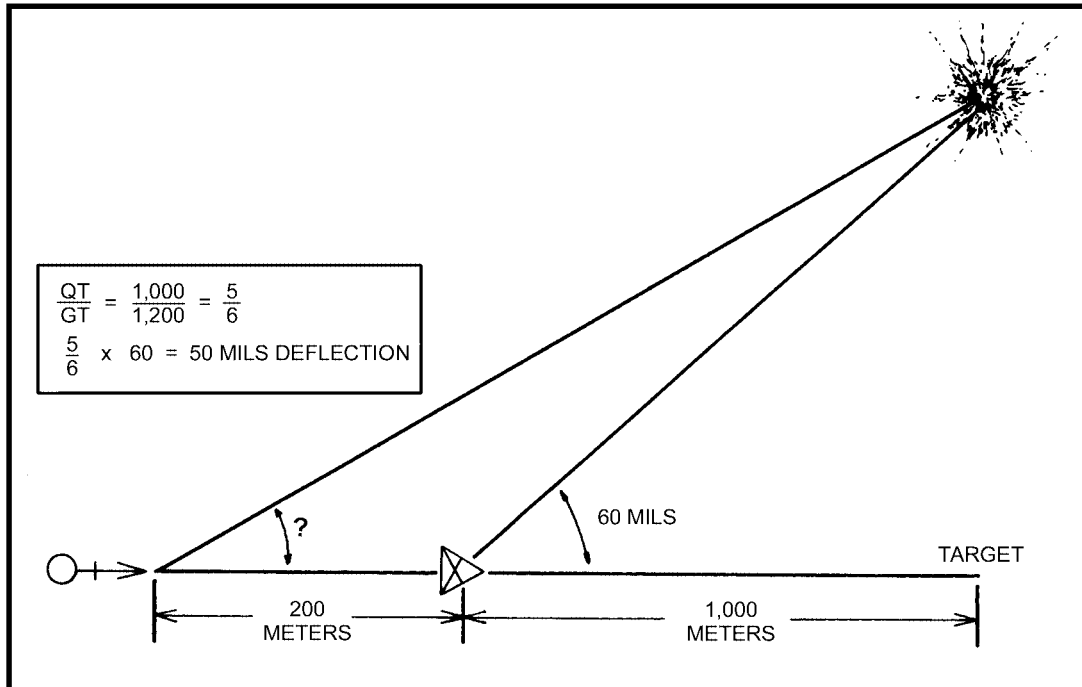

Figure 8-5. Observer more than 100 meters from the mortar but within 100 meters of the GT line.
b. This first round bursts beyond the target and 20 mils to the left as shown in Figure 8-5. The squad leader issues a subsequent fire command correcting the deflection and decreasing the range between himself and the target, thereby establishing a bracket. He commands, RIGHT TWO ZERO (20), RANGE ONE SIX ZERO ZERO (1600).
c. The second round bursts between the FO and target and on the GT line as shown in Figure 8-5, page 8-16. The deflection is now correct, and a 200-meter bracket has been established. The squad leader's subsequent fire command is RANGE, ONE SEVEN ZERO ZERO (1700). The gunner selects the charge from his firing table, announces the charge to the first ammunition bearer, and when all is ready he commands, FIRE.